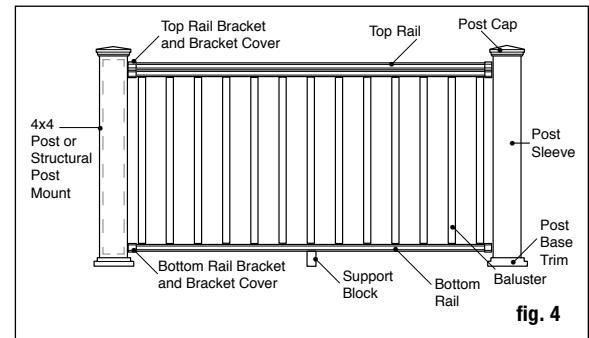

fig. 4
Step 5 Trim 4x4 post sleeves to length. Post sleeves should be a minimum of 1-1/2" longer than the railing height (fig. 4). Example: For a 36" high railing, trim post sleeve to a minimum of 38-1/2", can be left longer if desired. Slide a trimmed post sleeve over each 4x4 railing post or post mount. Post sleeve should slide easily over the post. DO NOT FORCE post sleeve onto post. Twisted or crooked 4x4s should be replaced. Slide a post base trim (optional) over each post sleeve for a finished look. Note: *It is recommended to install the post base trim prior to installing the bottom rail. However, the two-piece design does allow the installer to add the post base trim after the rail has been installed. To install, apply a thin line of clear exterior construction adhesive to the inside of the post trim, where it will contact the post sleeve, and snap into place around the base of the post sleeve.*